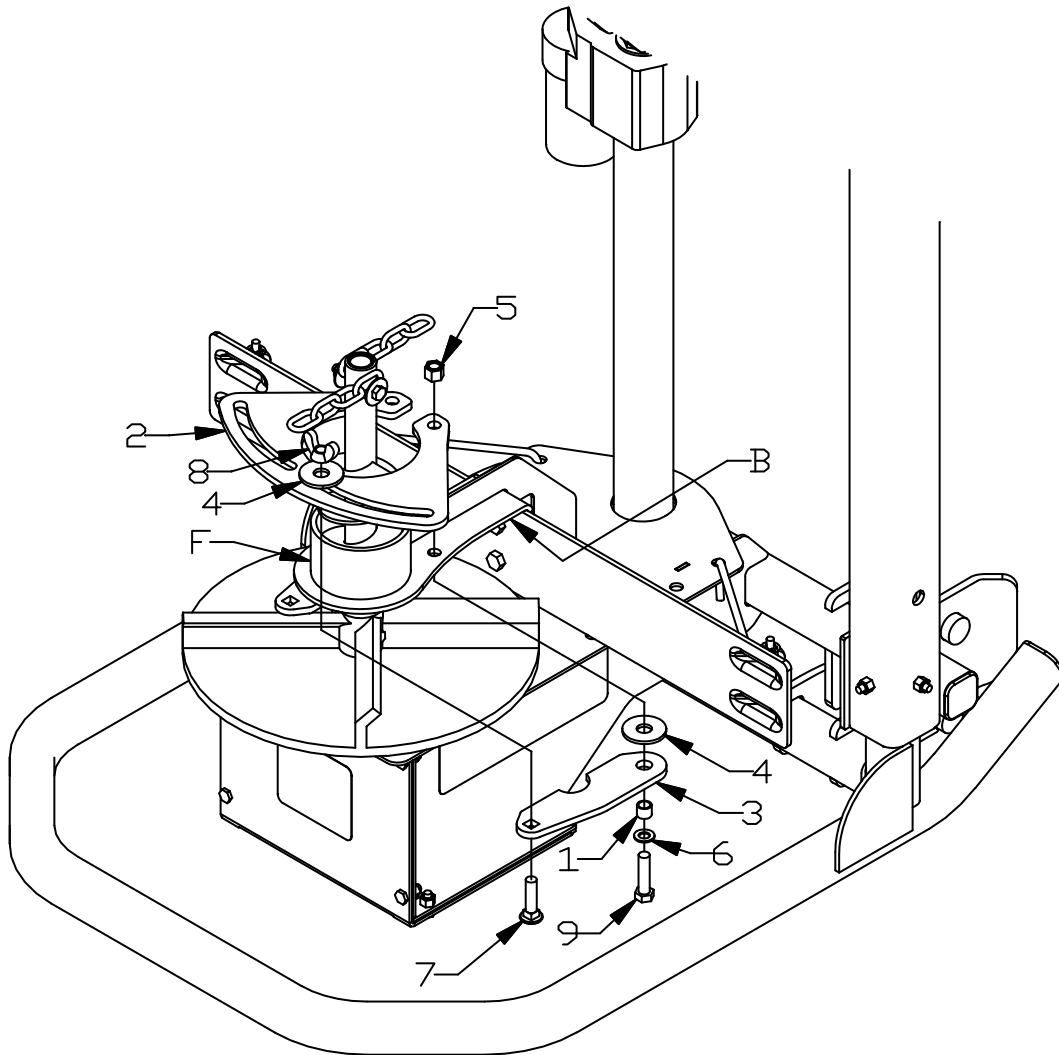

Figure 3. Base Plate and Choke Plate Assembly
2. Place Base Plate (2) over the existing Frame Bushing (F) and align the two 7/16" diameter holes in Base Plate (2) with the two 7/16" diameter holes in Frame (B). Refer to Figure 3.
3. Assemble two Choke Plates (3) underneath the plate in Frame (B). Align the round hole in Choke Plate (3) with the 7/16" diameter holes in Base Plate (2) and the plate in Frame (B). Assemble using 3/8" ID Bushing (1), 1/2" Nylon Washer (4), 3/8"-16x1-1/2" Hex Head Bolt (9), and 3/8-16 Nylon Lock Nut (5). Be sure to place Nylon Washer (4) between Choke Plate (3) and Frame (B) as shown in Figure 3. Leave hardware finger tight.
4. Assemble square holes in Choke Plate (3) to the slotted hole in Base Plate (2) using 3/8"-16x1-1/2" Carriage Bolt (7), 1/2" Nylon Washer (4), and 3/8"-16 Wing Nut (8). Be sure to use one 1/2" Nylon Washer (4) on top of Base Plate (2). Refer to Figure 3.